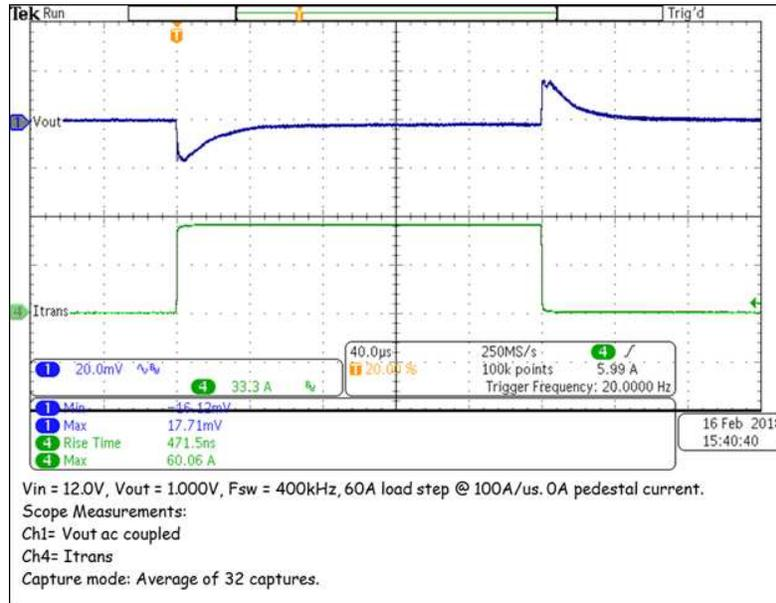

Figure 11. Response to 60 A, 100 A/µs Load Transient
- Turn the output of the function generator on. The transient response of the module to the load pulse should be present. The results should be similar to that shown Figure 11.